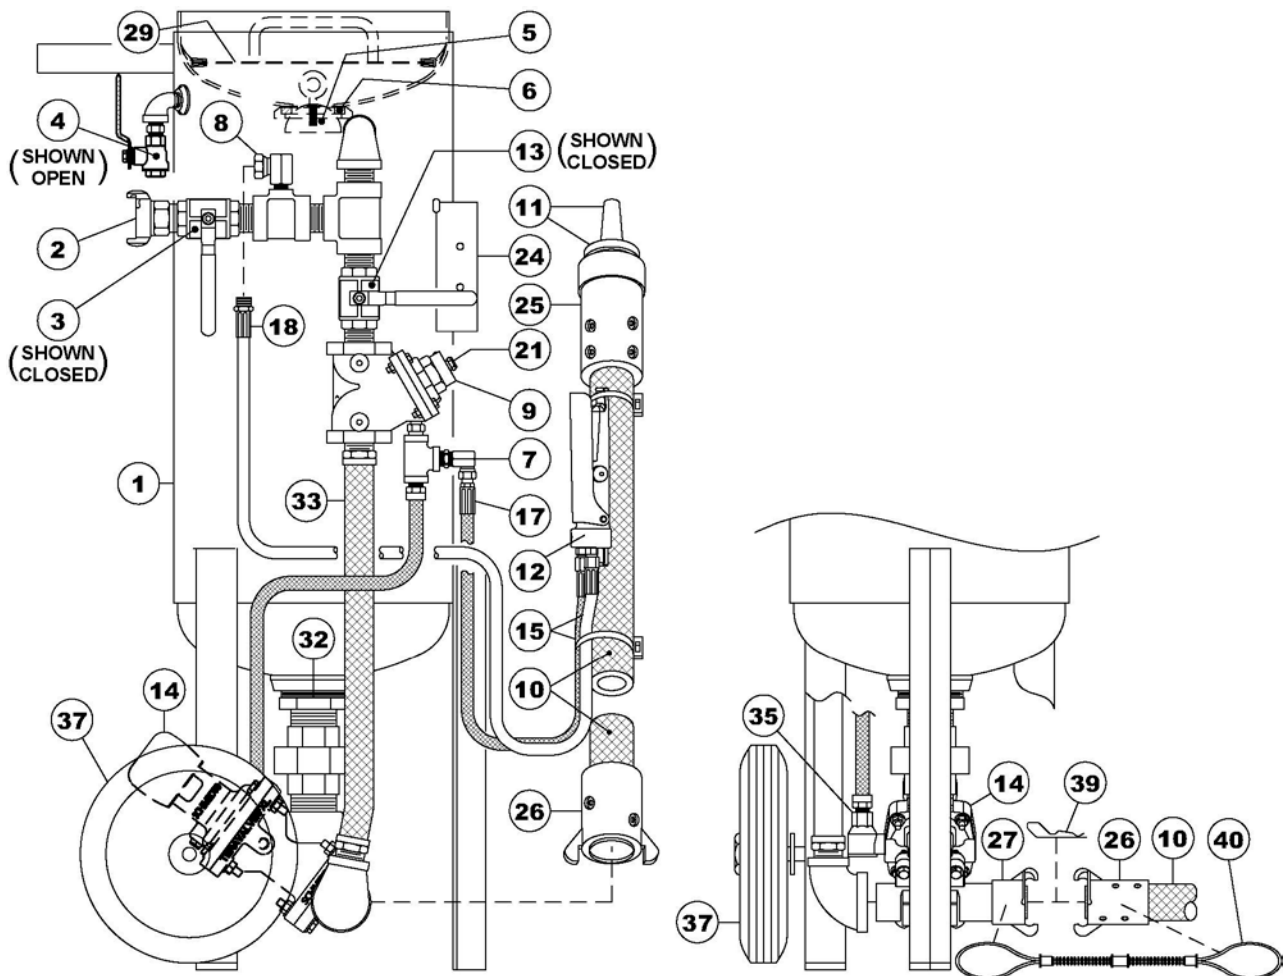

Figure 7.2 – Mini Abrasive Blaster with pneumatic deadman controls
7.2 Beginning the Blasting Operation (See Figure 7.2)
- 7.2.5. Close the blowdown ball valve (#4). The ball valve is closed when the handle is perpendicular to the body (See Figure 7.2).